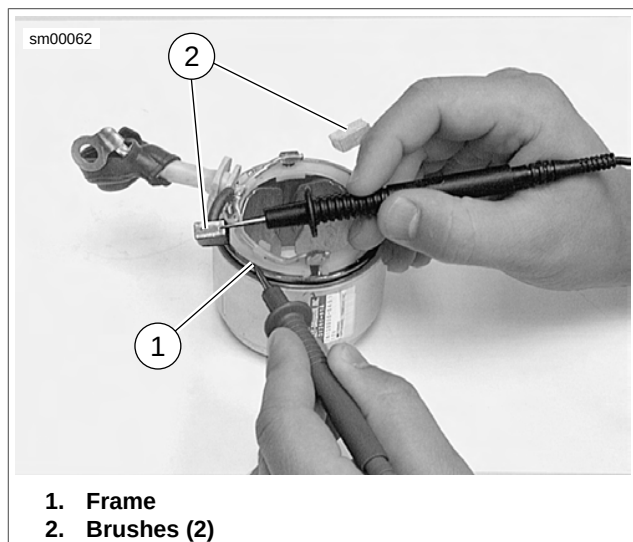

Figure 5-10. Grounded Starter Field Test
13. See Figure 5-10. Check for GROUNDED FIELD COIL with an ohmmeter or continuity tester.
- a. Touch one probe to the frame (1).
- b. Touch the other probe to each of the brushes (2) attached to the field coil.